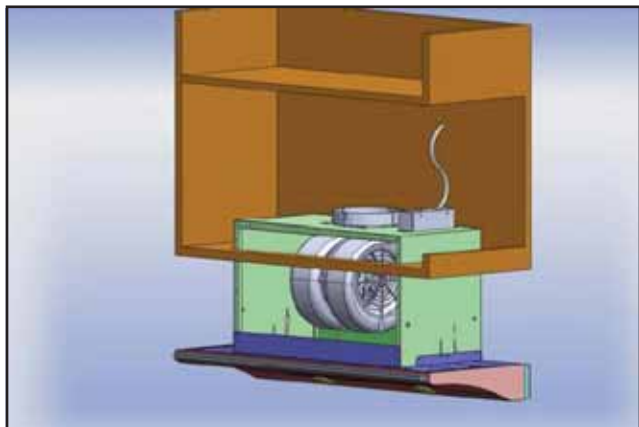

Fig.3
2) Open cabinet doors. Lift range hood and slide it through the opening located in the bottom of the cabinet, Fig.3. Make sure opening matches the dimensions on page 9, Fig.1.